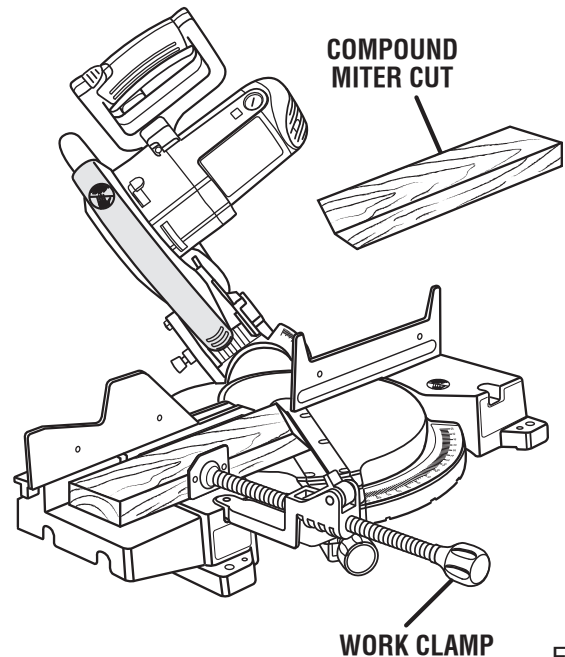

Fig. 33
- Grasp the stock firmly with one hand and secure it against the fence. Use the optional work clamp or a C-clamp to secure the workpiece when possible. See Figure 33.
- Grasp the stock firmly with one hand and secure it against the fence. Use the optional work clamp or a C-clamp to secure the workpiece when possible. *See Figure 33.*
- Slowly lower the blade into and through the workpiece. *See Figures 33 - 34.*